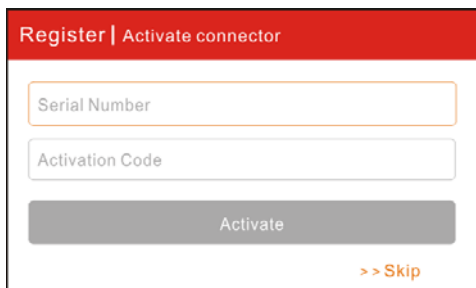

Fig. 4-4
- B. Activate the VCI module: In Fig. 4-4, input the Serial Number and Activation Code, which can be found in the password envelope.